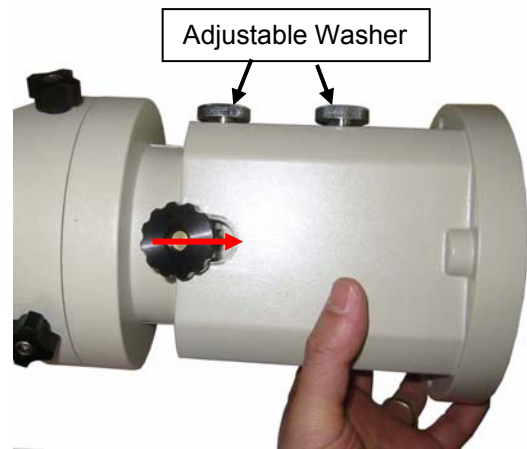

Figure 21
23. Place the AZ base onto the mount head with Vertical Locking Nut placed in the open slot on AZ base (Figure 21). Be careful that the mount will be bottom heavy.